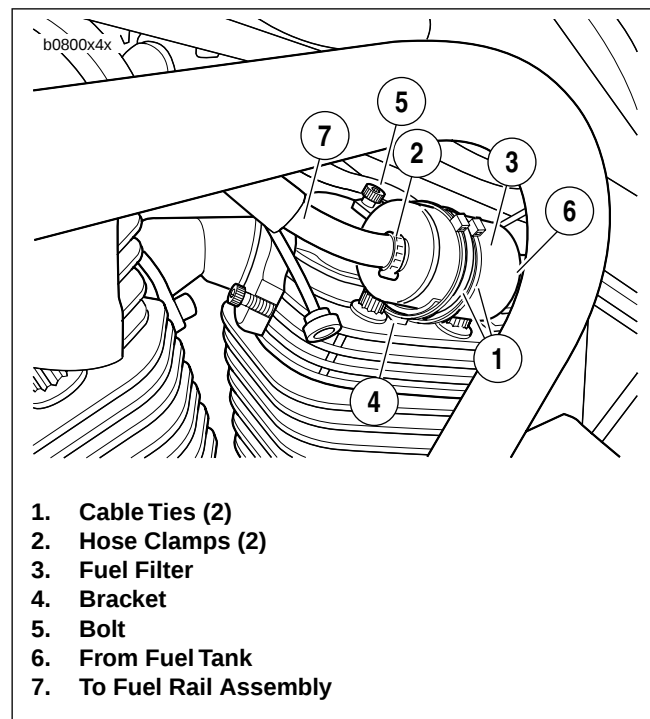

Figure 4-88. Inline Fuel Filter
See Figure 4-88. There is a replaceable inline fuel filter between the fuel pump outlet at the fuel tank and the fuel rail assembly.
2. See Figure 4-88. Cut two cable ties that secure fuel filter to bracket.
4. See Figure 4-88. Remove hose clamps from both sides to detach filter.